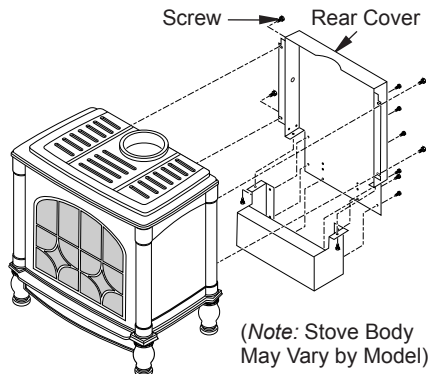

Figure 24 - Removing/Installing Rear Cover
1. Remove 4 hex bolts securing rear cover to back of stove body (see Figure 24).
2. Separate bottom cover from rear cover by loosening the 8 mounting screws (see Figure 24).
IMPORTANT: For clarity, gas valve assembly and grate/burner assembly are not shown in Figures 24 and 25. They will, however, be in your fireplace when you are installing the blower. Also for clarity the firebox is shown with dotted lines.